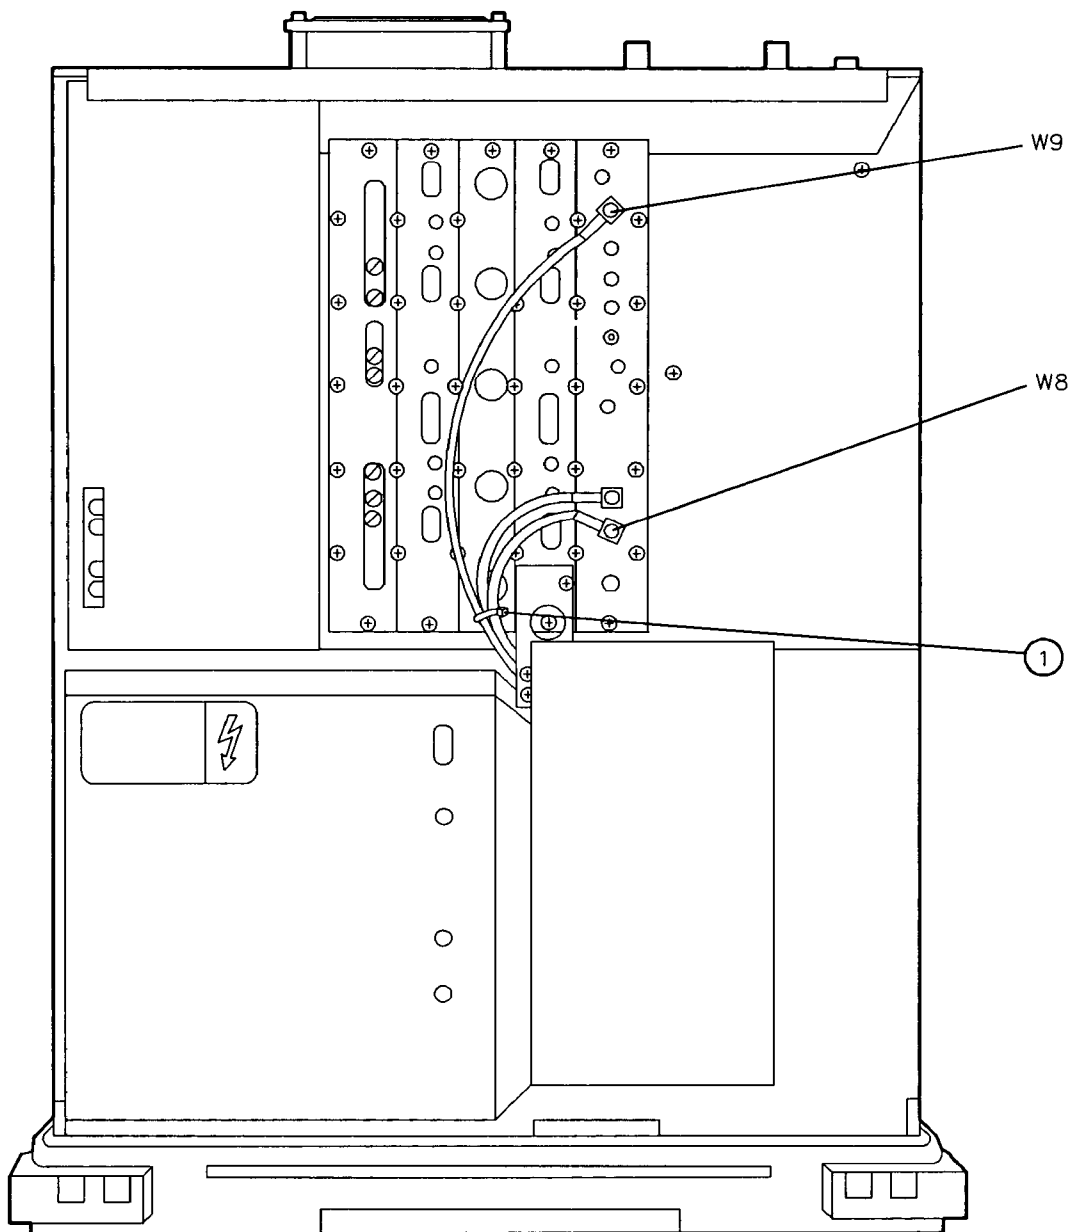

Figure 3-36. Connecting Cables to A9 Third Converter
18. Place the analyzer in its normal operating position. Connect the cables listed below to the IF section's A9 Third Converter assembly. See Figure 3-36.